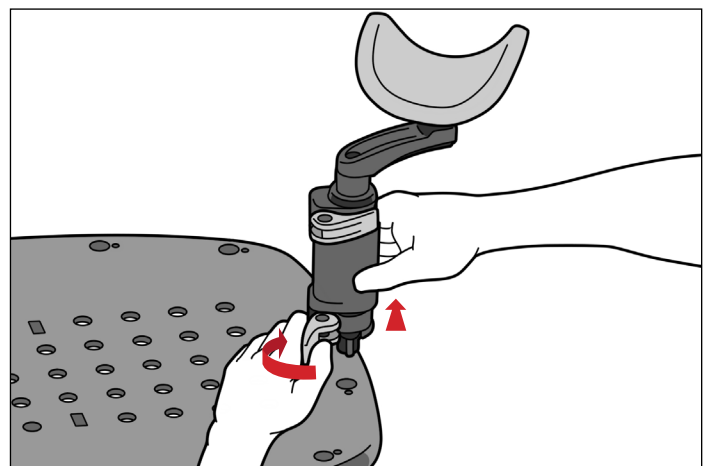

FIG. 24
2. Remove Wrist Support(s) by opening the lower lever and pull the Wrist Support out of the holes in the Patient Surface. (Fig. 24)